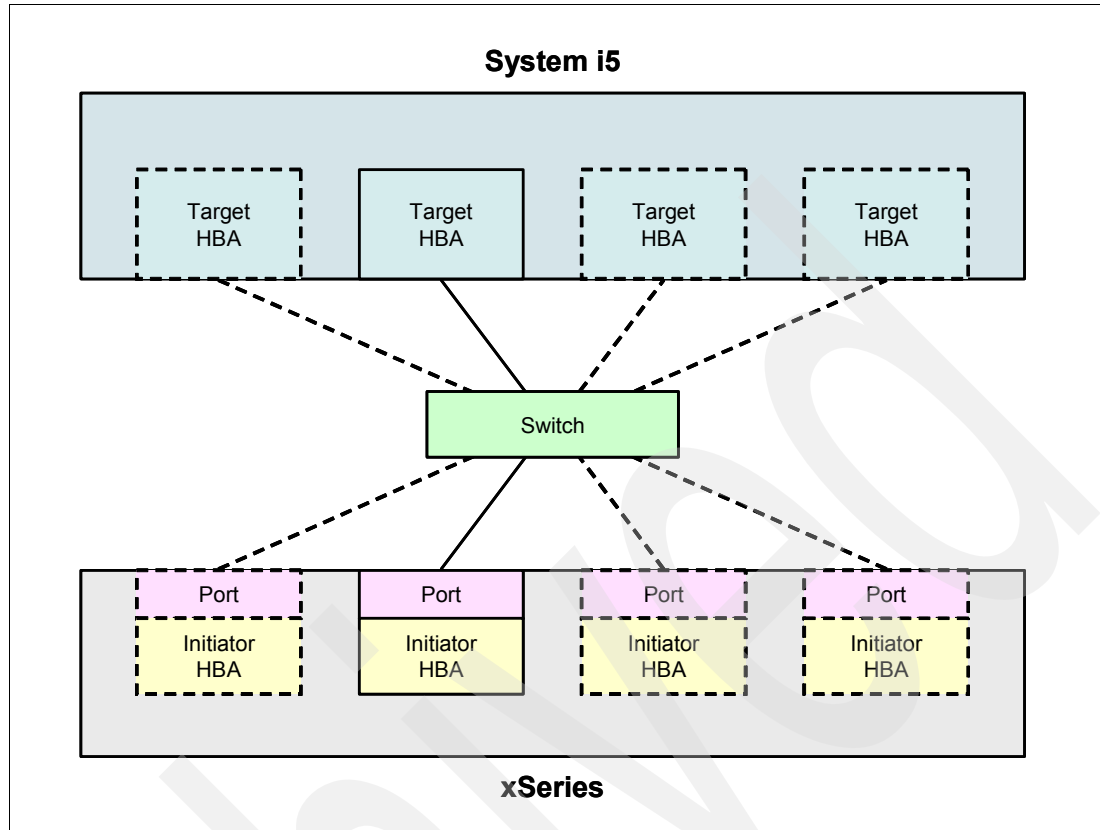
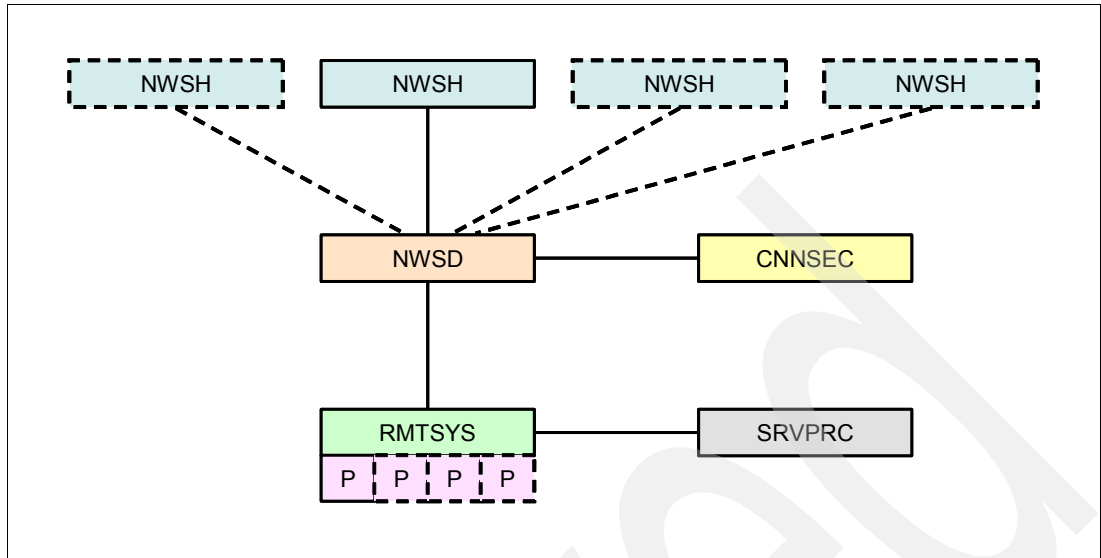

Figure 9-1 Increasing the bandwidth of a hosted xSeries server connection - physical view
Figure 9-2 Increasing the bandwidth of a hosted xSeries server connection - object-based view
You can increase the bandwidth of the connection between a hosted xSeries server and its hosting i5/OS partition by adding target and initiator HBAs as shown in Figure 9-1 on page 332.
In Figure 9-1, note the following points:
- ▶ Each target HBA can establish only one data path to one initiator HBA port, although each initiator HBA port can establish data paths to up to four target HBAs. Therefore, in Figure 9-1, you cannot have more than one initiator HBA port communicating with the same target HBA. This would be meshed data flow, which is not supported. Refer to 9.7.3, “Path deployment considerations” on page 367 for a more detailed discussion of meshed data flow.
We can also depict the target-initiator HBA relationship shown in Figure 9-1 using the i5/OS objects that represent the different components of the iSCSI network. Figure 9-2 on page 333 shows the equivalent object-based view to Figure 9-1.
In Figure 9-2, note the following points:
As shown in Figure 9-1 on page 332 and Figure 9-2 on page 333, the maximum number of physical initiator HBAs (ports) that you can install in an xSeries server is four, and the maximum number of target HBAs you can configure to communicate with a hosted xSeries server is also four. In terms of the ratio of target HBAs communicating with initiator HBA ports in an xSeries server, you can have any of the following combinations: